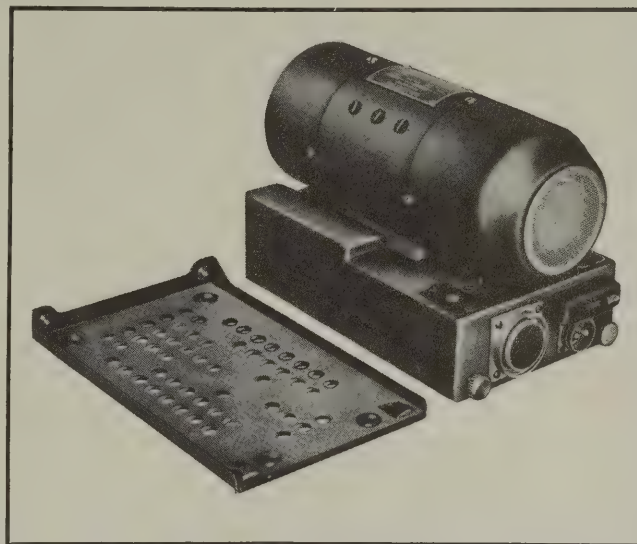

Figure 2-8—Dynamotor Unit DY-17/ART-13A with Mounting Plate MT-164/ART-13
(2) Safety wire Dynamotor Unit DY-17/ART-13 by passing the wire through one of the holes in the knob and the hole in the corner of the filter and relay box. See figure 2-8.